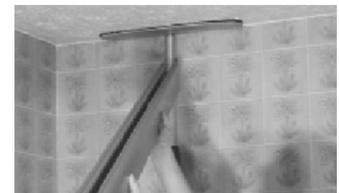

Figure 34
21. Place the end of the rail with the hooks onto the pivot post (see Figure 34).